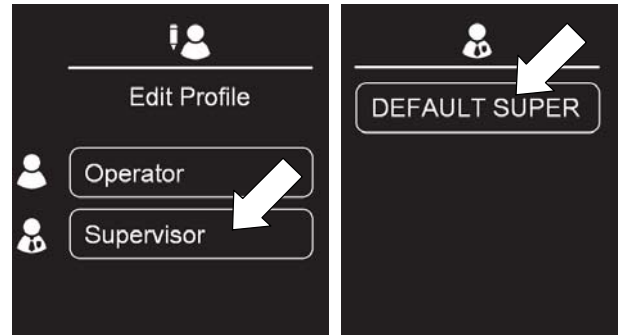

FIG. 185
4. Press the Supervisor button then press the DEFAULT SUPER button (Figure 185).